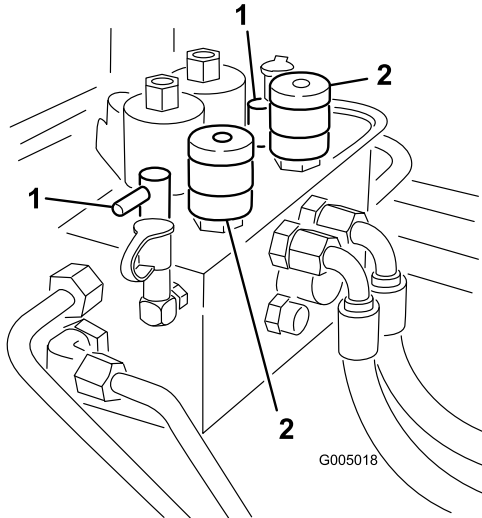

Figure 84
3. Locate the reel speed selector knobs and backlap knobs (Figure 84). Rotate the desired backlap knob(s) to the backlap position and the desired reel speed selector knob(s) to position 1.